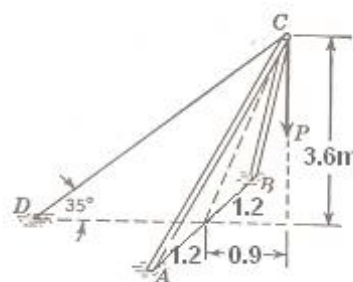

Figure 6
2. Calculate the tension (T) in the guy wire CD and the compression (S) in each strut of the shear leg shown in figure 6. if the vertical load P = 100 kN. [16]